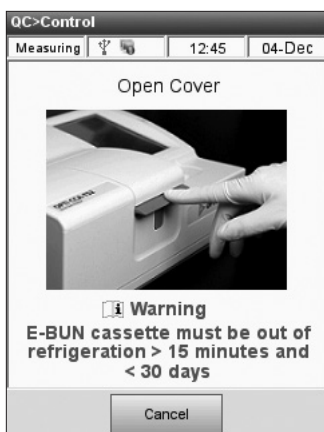

Fig. 4-22 E-BUN Open Cover
- Open the sample chamber cover by pressing down on the center of the red latch (Fig. 4-22).
NOTE: For E-BUN cassettes, out-of-storage warnings will be displayed (Figs. 4-22 - 4-24). This function is enabled by default and can be disabled in the System>Setup menu (see Section 3.2.2.2.)